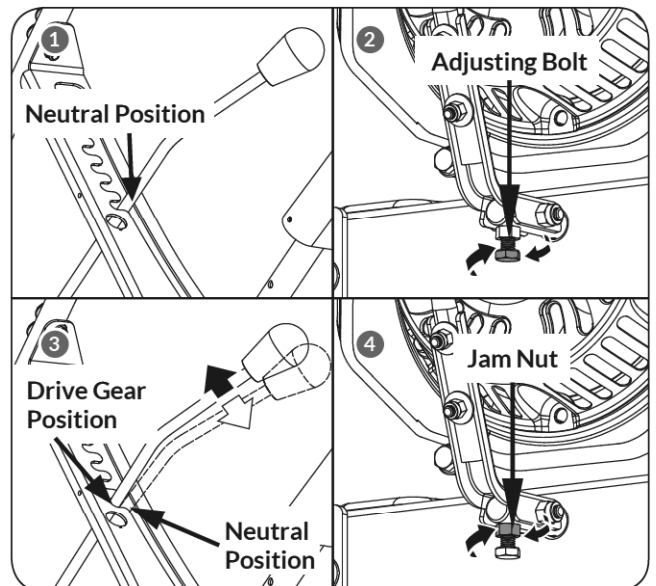

Figure 4b
5. Slowly tighten the adjusting bolt until the shift lever has tension with a spring action when shifting from Neutral to a Drive Gear position. (Voir **Figure 4b**)